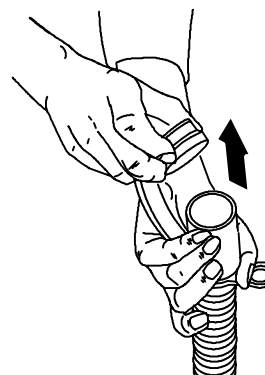

FIG. 44
2. Remove the drain hose cap while holding the hose up, then slowly lower the drain hose to the floor drain or sink (Figure 44).